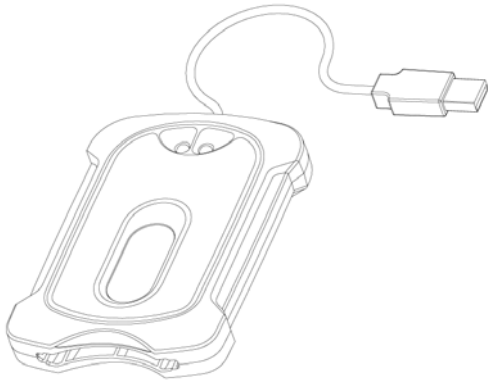

FIGURE 5: CARVE WRIGHT MEMORY CARD PROGRAMMER
- ✓ CarveWright Memory Card Programmer (Figure 5)